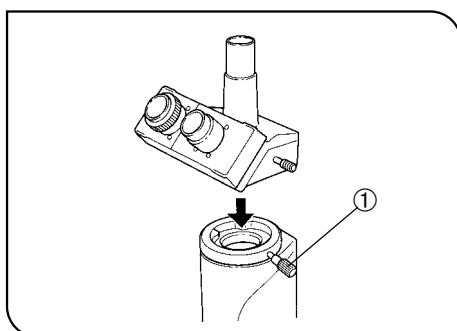

Fig. 10
7 Mounting the Observation Tube (CK40 Only) (Fig. 10 & 11)
1. Loosen the observation tube clamping knob ①. (Fig. 10)
2. Insert the circular dovetail at the bottom of the observation tube into the mount opening on the microscope body. Adjust the observation tube until the binocular eyepieces face directly to the front, and then tighten the clamping thumbscrew. (Fig. 10)